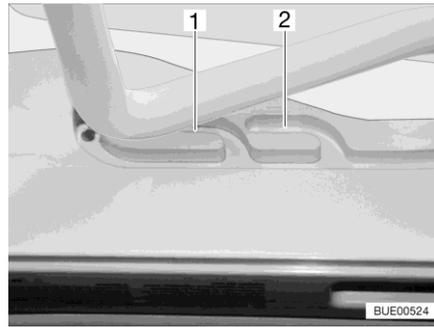
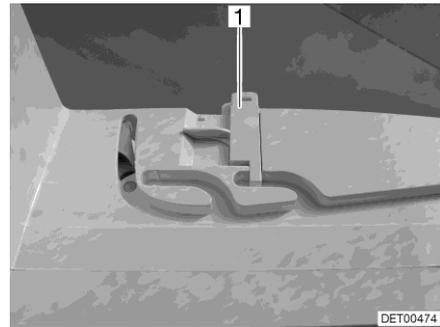

Fig. 82 Guide (ventilation position)
Fig. 83 Lock (ventilation position)
The Heki skylight can be put in two ventilation positions: Bad weather position (Fig. 82,1) and central position (Fig. 82,2). Depending on the model, the skylight can be locked in the central position with both left and right latches (Fig. 83,1) on the skylight frame.
- Push the bar slightly upwards and into the selected guide (Fig. 82,1 or 2) and lock if necessary.